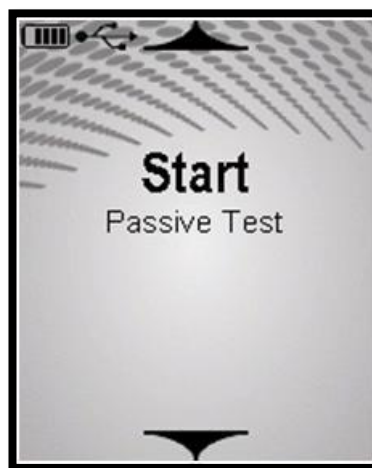

Figure 16 - Start Passive Test message
- On the Start Mouthpiece Test page, press the down arrow key to access the Passive Test function and Start Passive Test is displayed (refer Figure 16).